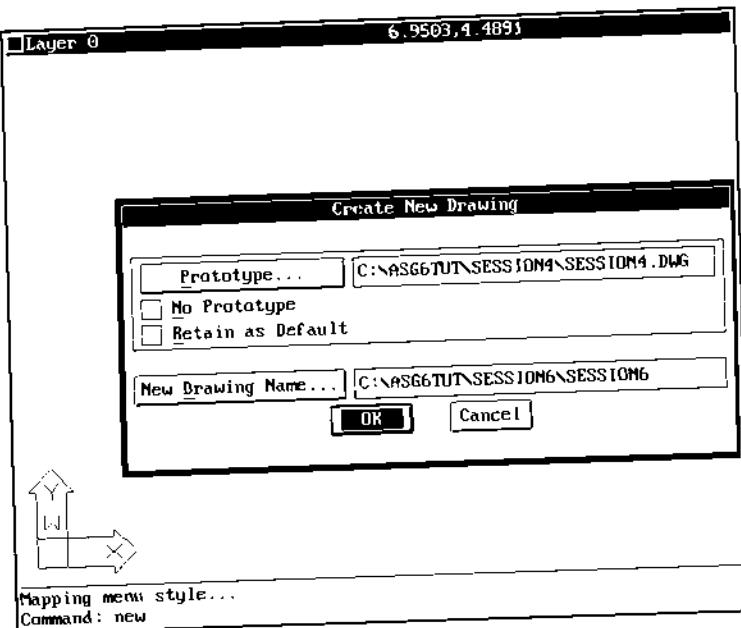

Figure 1.
4. Save the drawing as SESSION6 in the C:\ASG6TUT\SESSION6 directory as shown in Figure 1.